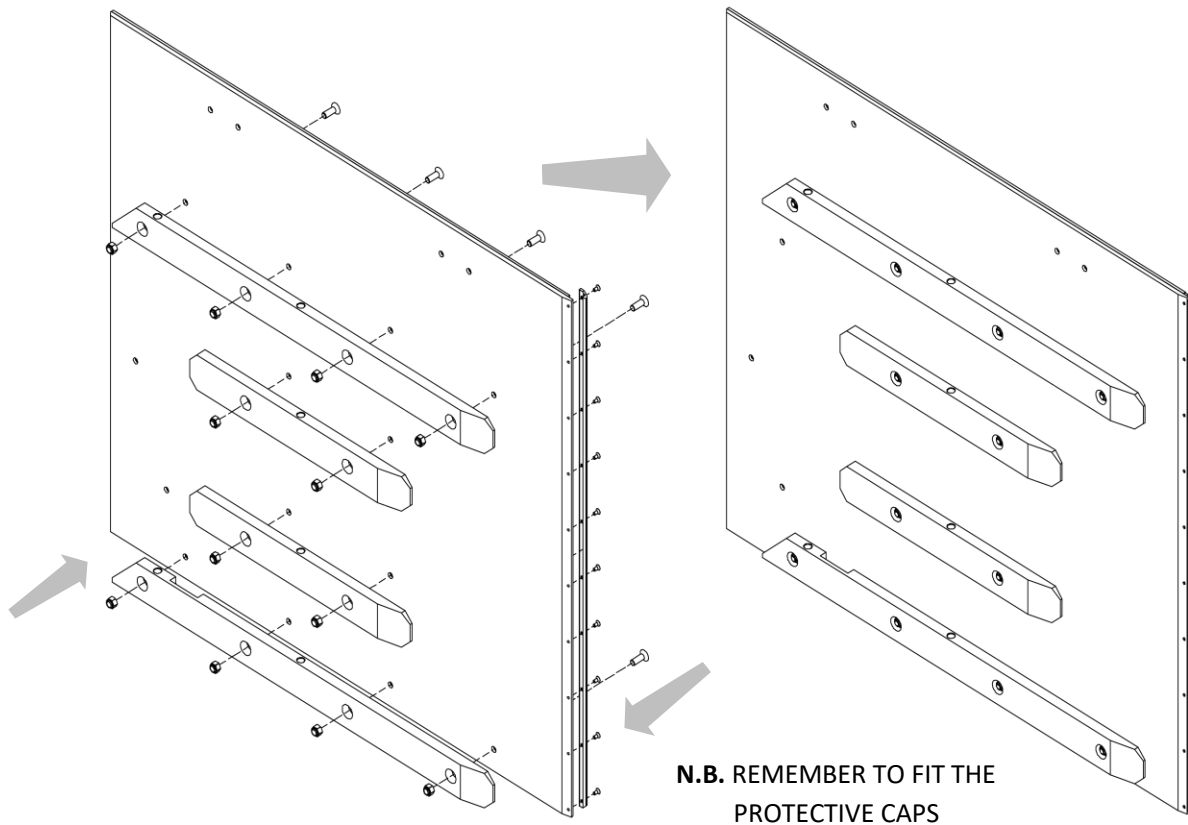

Figure 17
2. Fit the fastening plates on the panels using the screws and nuts (see *Figure 17*), taking care of any shims to be placed between the plates and the panel itself.